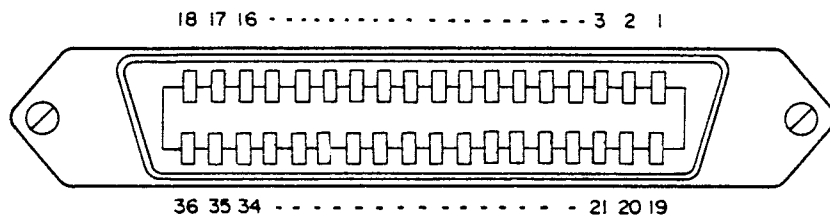

Figure 4-9. Handler Interface Connector Pin Assignments.
- Check the states of the comparison data output (TTL) at the HANDLER INTERFACE connector using the 3478A. The pin assignments and the data states are shown in Figure 4-9 and Table 4-7.